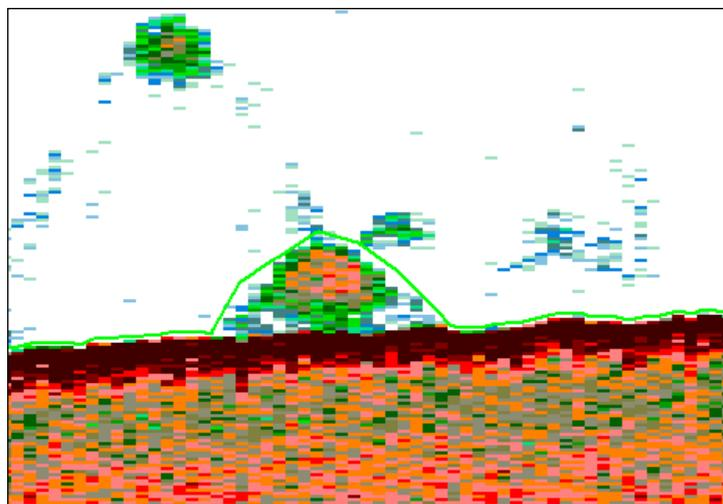

Figure 23: Echogram showing the redrawn line.
32. At the end of the final stroke, release the left mouse button, activate the **Shortcut** (right-click) menu and click **Update Active Line**. The line will be redrawn over the object as shown in Figure 23.